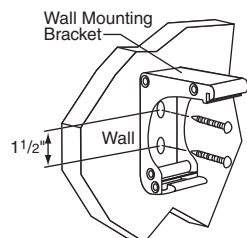

Figure 1
- ① Attach Wall Mounting Brackets to wall (see Fig. 1). The installer should furnish screws, toggle bolts, molly bolts, nylon or lead anchors as required by the mounting surface. Installer also needs to ensure the mounting surface is reinforced sufficiently to support the screen. **Brackets must be level with each other.**